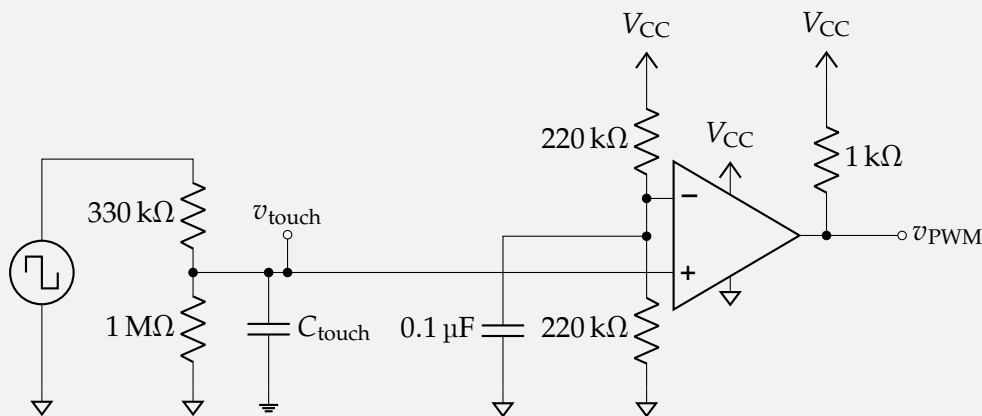

Figure 12.6: Touch sensor PWM circuit.
The circuit in figure 12.6 compares the voltage across the capacitor to half of the supply voltage and outputs a 1 or 0. When the sensor is touched, it takes longer to charge, so the duty cycle of the output signal changes.
2. *Build* the circuit in figure 12.6 using the LM339 or LM393 comparator and $V_{CC} = 5\text{ V}$. Note that the oscilloscope probe will act as the $1\text{ M}\Omega$ resistor! Don't connect the capacitor yet.